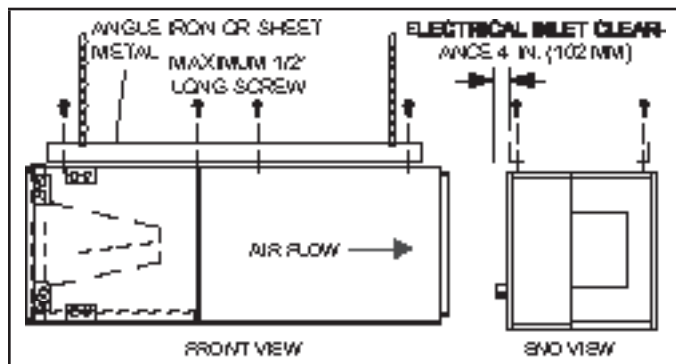

FIGURE 5. Suspending Horizontal Unit
- 5 - If the unit is suspended, the entire length of the cabinet must be supported. If you use a chain or strap, use a piece of angle iron or sheet metal attached to the unit (either above or below) to support the length of the cabinet. Use securing screws no longer than 1/2 inch to avoid damaging the coil or filter. See FIGURE 5. Use sheet metal screws to connect the return and supply air plenums as required.
- 12 - If suspending the unit, it must be supported along the entire length of the cabinet. If using chain or strap, use a piece of angle iron or sheet metal attached to the unit (either above or below) so that the full length of the cabinet is supported. Use securing screws no longer than 1/2" to avoid damage to coil or filter, as illustrated in FIGURE 5. Connect return and supply air plenums as required using sheet metal screws.